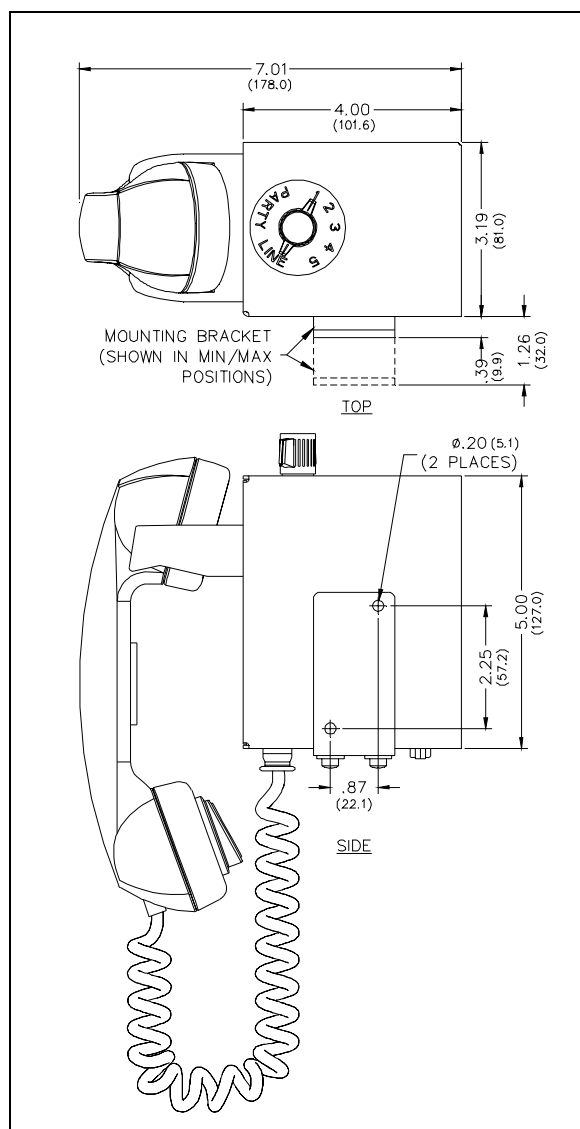

Figure 2. ICS Desk-Edge Subset
1. Refer to Figure 2 for the desk-edge mounting bracket hole locations and sizes.